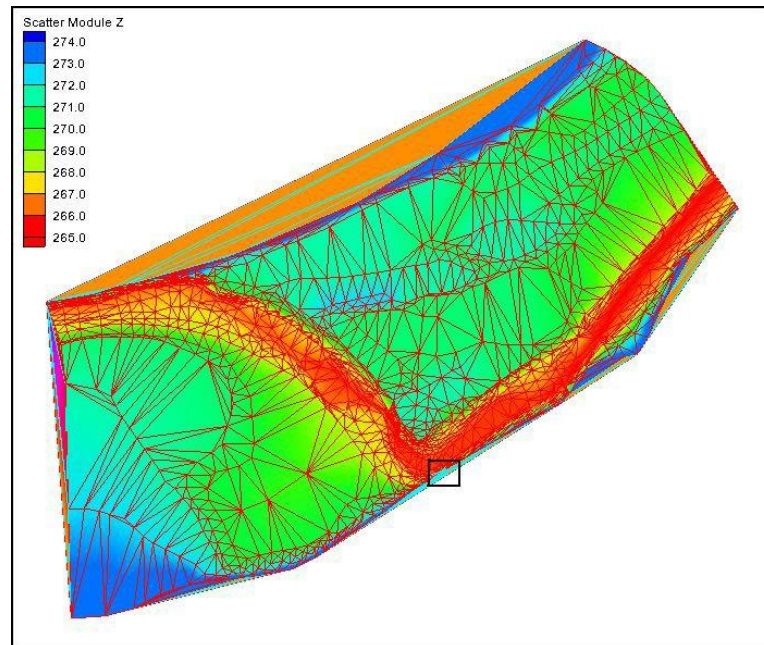

Figure 2 Zoom area
4. **Zoom**  in to the bottom of the dataset as shown in Figure 2.